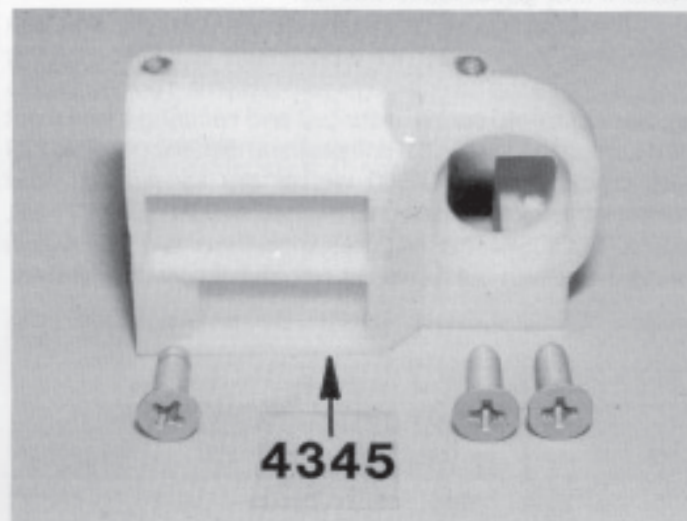

Fig. 19
□ **Figs. 19 & 20** In bag #4 you will find the #4345 left nylon rear bulkhead and three #3324 8-32 x 1/2" FHMScrews. Install the left hand bulkhead onto the lower rear brace using the three #3324 screws. Do not overtighten.